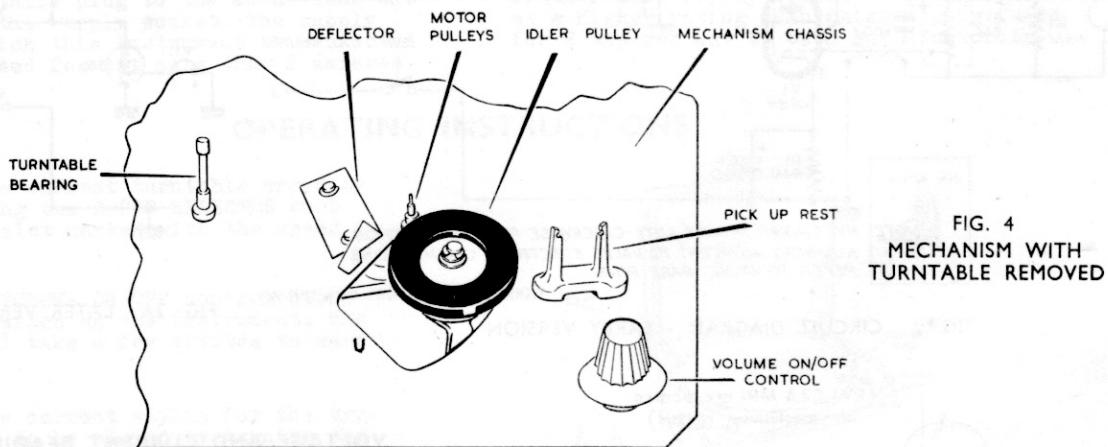

FIG. 4
5. Pass the cord through the eye, and then thread the small sleeve onto the cord, pass the cord through the hole at point "Y" doubling back through the sleeve again. Hold the cord with a pair of pliers and adjust the length of cord so that the edge of the idler pulley wheel is 1/16" from the edge of the base plate cut-out marked "U" (See Fig.4). Solder the cord into position.